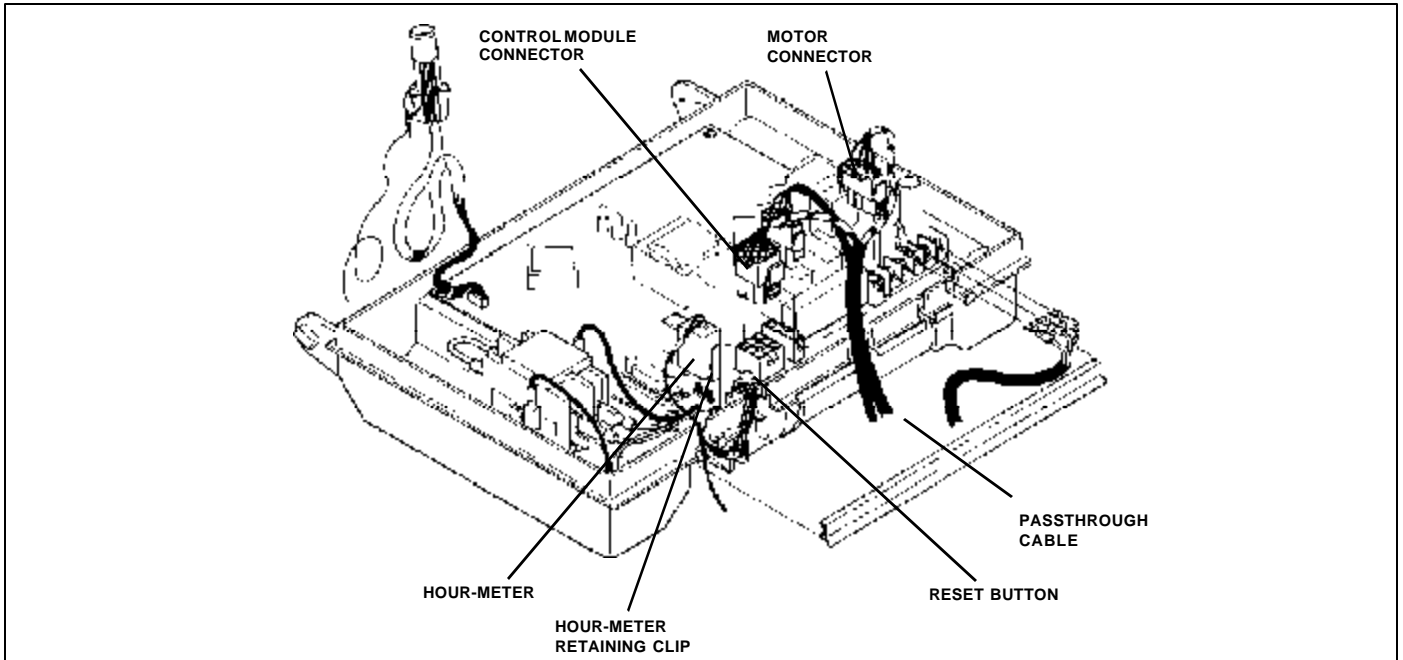

Figure 12 Compression Module Connections and Reset Button Location
- Remove the *hour-meter* from its pocket in the *Compression Module* and plug it into the *Electronics Module* circuit board; ensure positive engagement of the retaining clip (See Figure 12).
NOTE: If a “Call for Service” (e.g. red light flashing) was evident before servicing the VRA, the electronics must to be “reset” by pushing the blue reset button located on the lower left corner of the *Electronics Module* circuit board (See Figure 12).
- Unplug the two connectors on the end of the *pass through cable*, from the *Electronics Module* (See Figure 12).